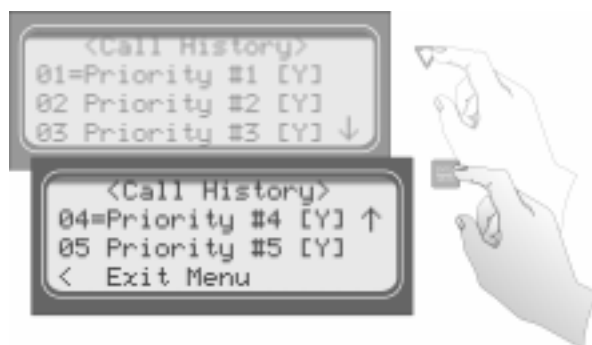

Figure 4-14 Call History Options
6. Press the  or  button to move through the call history menu choices. See Figure 4-14.